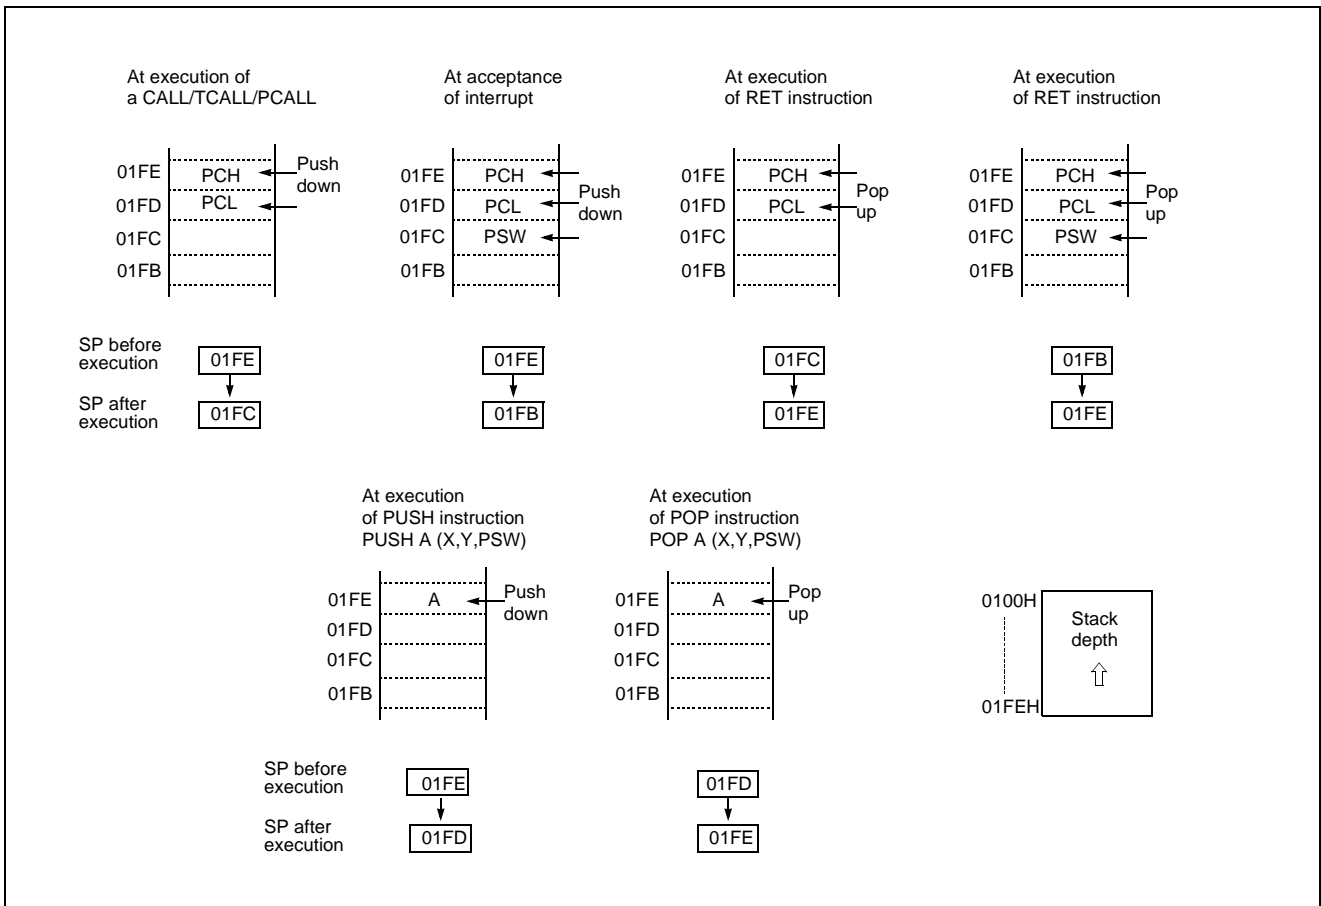

Figure 8-4 Stack Operation
The save/restore locations in the stack are determined by the stack pointed (SP). The SP is automatically decreased after the saving, and increased before the restoring. This means the value of the SP indicates the stack location number for the next save. Refer to Figure 8-4 on page 22.